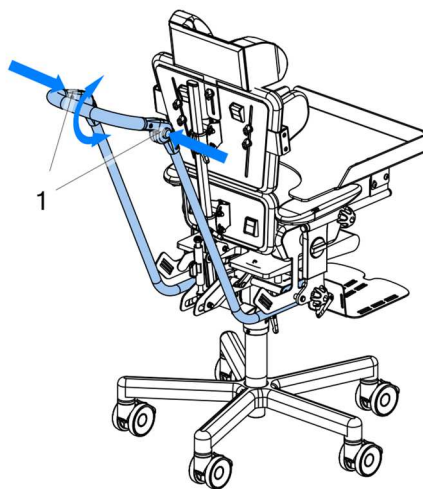

Fig. 4
To adjust the height of the push handle, press the buttons (1) as shown in Fig. 4, and then set the handle to the desired height.